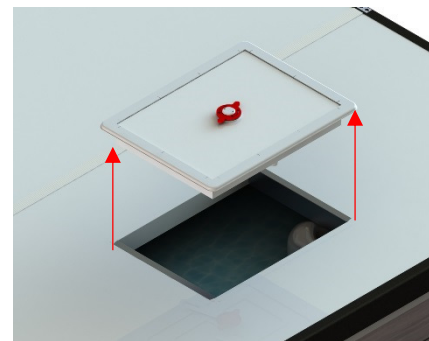

Figure 13
- 5) Lift the escape hatch straight up by gripping its sides and set it aside. (Figure 13)